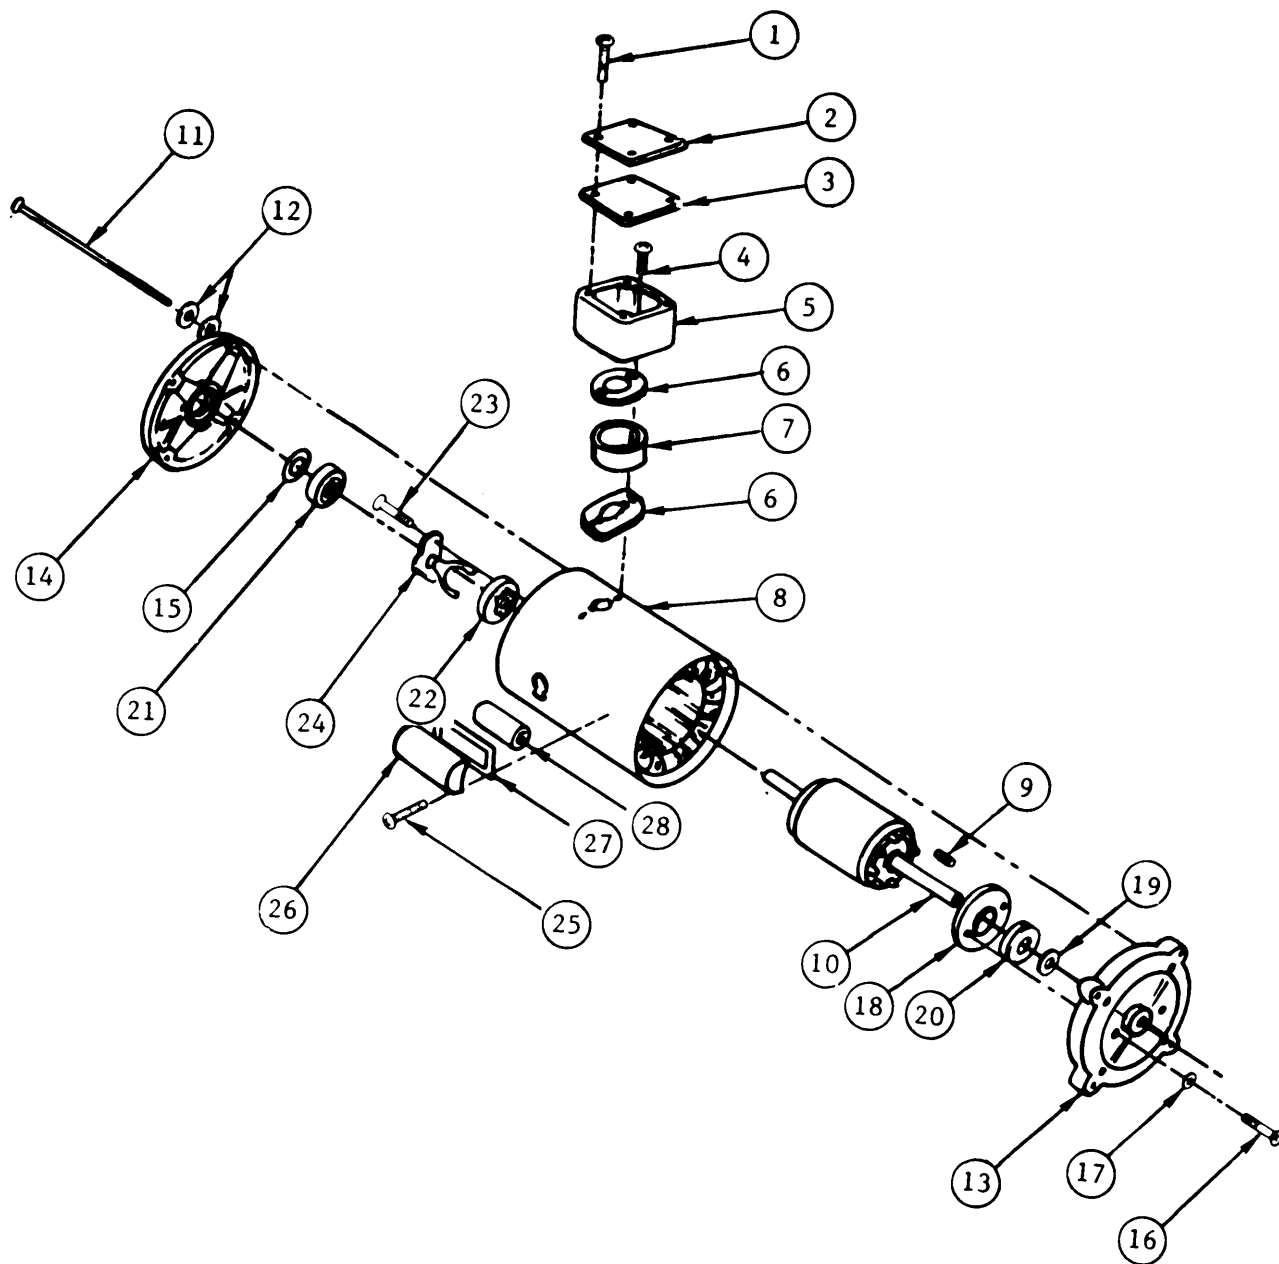

Figure 3-10. Chemical Feed Pump Motor Assembly (USMC)
(19) Using a bearing press/puller, remove pump-end bearings (16) from rotor shaft (15).
(20) Remove bearing snap ring (17) from rotor shaft (15).
(21) Using a bearing press/puller, remove fan-end bearings (18) from rotor shaft (15).
(22) Remove bearing snap ring (19) and snap ring (20) in front of centrifugal mechanism (21) from rotor shaft (15).
(23) Remove centrifugal mechanism (21) from rotor shaft (15).
(24) Remove two screws (22) from inside motor casing (27) and stationary switch (23).
(25) Disconnect two wire clips from stationary switch (23) and remove stationary switch (23) from motor casing (27).
(26) Remove two screws (24) from motor casing (27) and capacitor cover (25).
(27) Remove capacitor cover (25) from motor casing (27).
(28) Disconnect two wire clips from capacitor (26) and remove capacitor (26) from motor casing (27).
c. Motor Disassembly. (Figure 3-10) (USMC)
(1) To remove motor from pump assembly refer to paragraph 2-48.
- (23) Hold conduit box (5) and new gasket (6) in place on motor casing (27) and align two mounting holes.
- (24) Install two screws (3) and two lockwashers (4) through conduit box (5) and motor casing (27).
(25) Hold conduit box cover (2) in place on conduit box (5) and align two mounting holes.
(26) Install two screws (1) through conduit box cover (2) and conduit box (5).
i. Reassembly. (Figure 3-10) (USMC)
(1) Connect two wire clips of capacitor (28) and install capacitor (28) on motor casing (8).
(2) Hold gasket (27) and capacitor cover (26) in place on motor casing (8).
(3) Install two screws (25) through capacitor cover (26), gasket (27), and motor casing (8).
(4) Connect two wire clips to stationary switch (24) and hold stationary switch (24) in place on motor casing (8).
(5) Install two screws (23) through stationary switch (24) and motor casing (8).
(6) Install centrifugal mechanism (22) on rotor shaft (10).
(7) Press front-end bearing (21) on rotor shaft (10).
(8) Install bearing retainer plate (18) on rotor shaft (10).
(9) Press pump-end bearing (20) on rotor shaft (10).
(10) Install shaft seal (19) on rotor shaft (10).